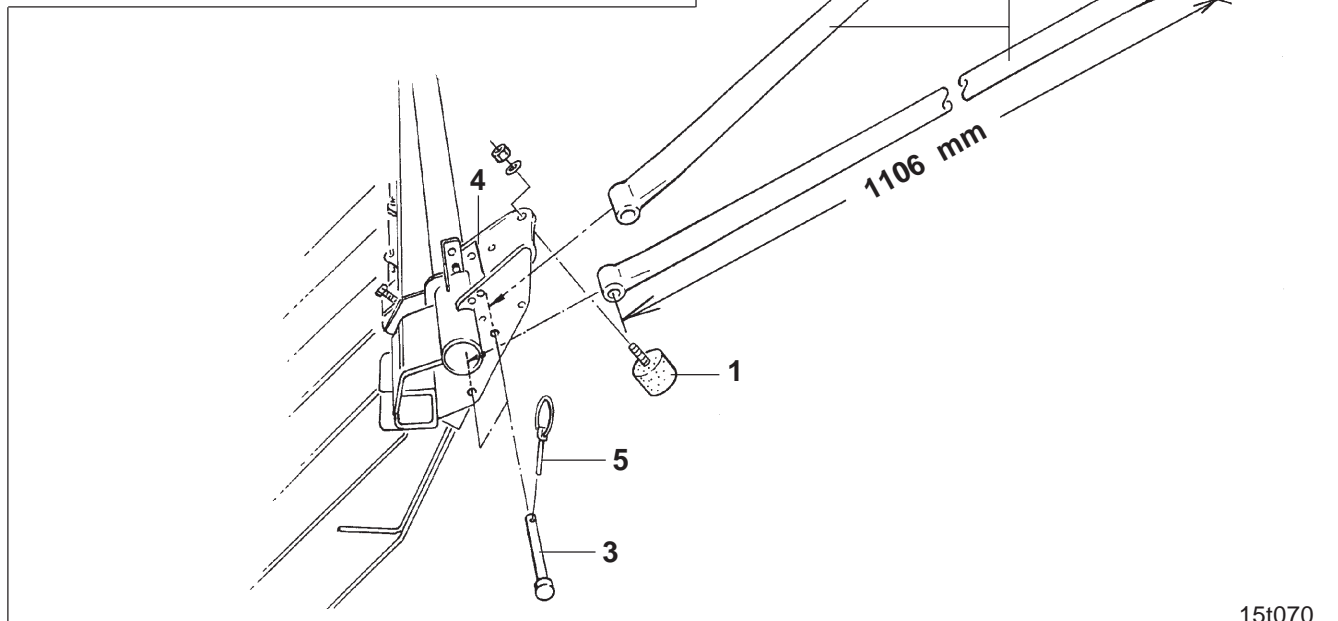
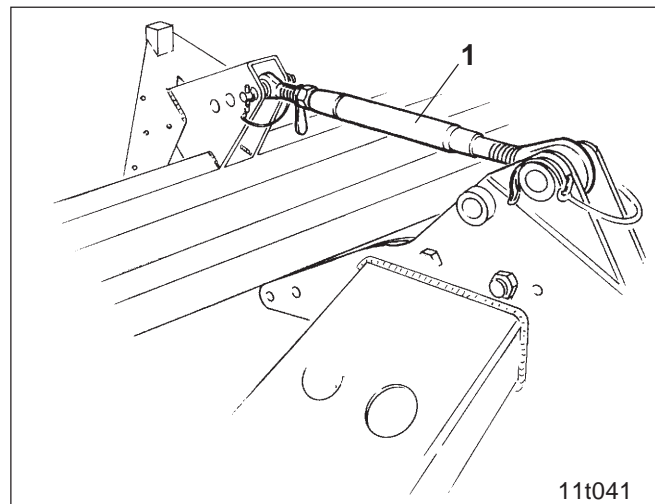

Fig. 25.3
Fig. 25.7
- Bolt on swing metal buffer (Fig. 25.3/1).
- Fix parallel tubes (Fig. 25.3/2) with pins (Fig. 25.3/3) to the retainers (Fig. 25.3/4) of the extra coverage following harrow and secure with clip pins (Fig. 25.3/5).
- Fix the tubes (Fig. 25.3/2) with pins (Fig. 25.3/6) to the retainers (Fig. 25.3/7) and secure with clip pins (Fig. 25.3/8).
This setting is conducted by lengthening or shortening the top link (Fig. 25.7/1), by which the sowing module is coupled to the soil tillage implement.
Should the settability of the top link (Fig. 25.7/1) be insufficient, the length of the upper fixing tubes on the retainers (Fig. 25.3/9) should be readjusted.